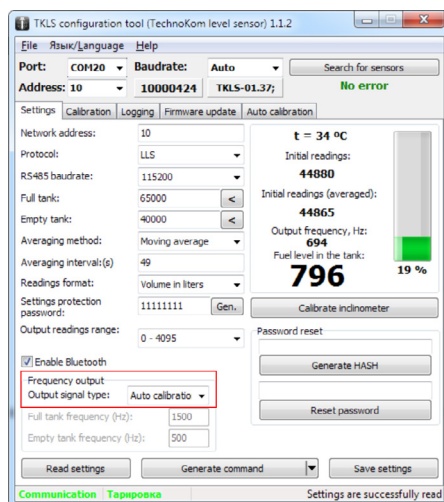

Fig.1. Frequency output configuration for auto calibration mode.
- Go to the “Settings” tab and set the sensor frequency output to the Auto calibration mode (Fig.1);
- To start auto calibration, press the Start calibration tab. The pump will start fuel transition from the storage tank into the fuel tank. The current state of the pump is displayed on the Auto calibration tab – Pump is turned off, Pump is turned on. If the calibration has not started, check the frequency output mode and ensure that the Auto calibration mode is selected on the Settings tab (see Fig.1);
- connect the 4-pin connector of TKLS-Prog-485 converter to the 4-pin connector of the adaptor (see fig.1, step 1);
- connect the USB cable to the PC (fig.1, step 2);
- connect free end of the adaptor (Molex connector) to TKLS sensor (fig.1, step 3);